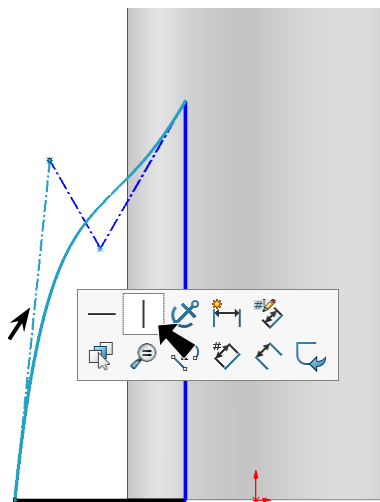

Fig. 20
Step 7. Click **bottom control polygon segment** and click **Make Vertical**  on the context toolbar, **Fig. 20**.